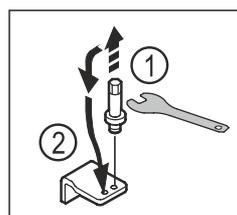

Fig. 22
- ▶ Unscrew the bolt of the lower swap bearing block using an SW5 external hexagon wrench. Fig. 22 (1)
- ▶ Insert the bolt on the opposite side. Fig. 22 (2)